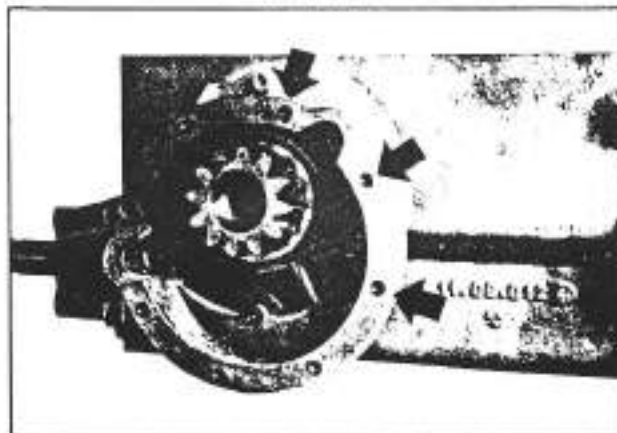

Fig. 3-57. Removal of the wheel hub
Isolate the wheel hub that needs overhaul and remove the eight bolts which attach the hub to the wheel reduction gear (see figure 3-57) and proceed with the following operations:
- Take out the mounting bolts from the reduction gear casing (see figure 3-57) and remove the unit.